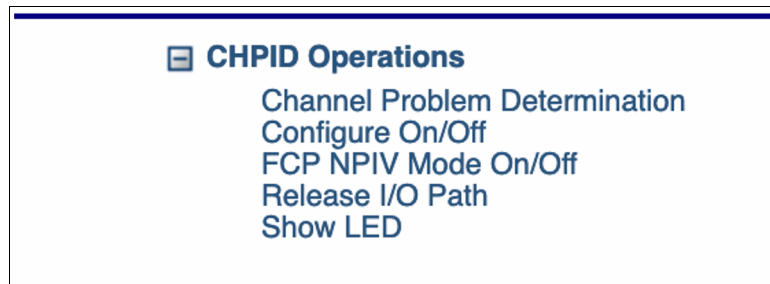

Figure 19 Select the FCP NPIV Mode On/Off entry
2. Select the **FCP NPIV Mode On/Off** entry from the CHPID Operations menu in the bottom center pane (Figure 19).